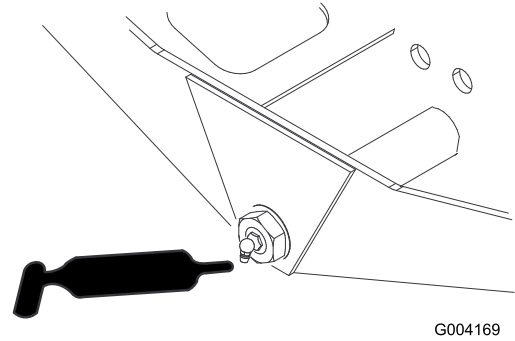

Figure 47
- Axle steering pivot (1) (Figure 47)